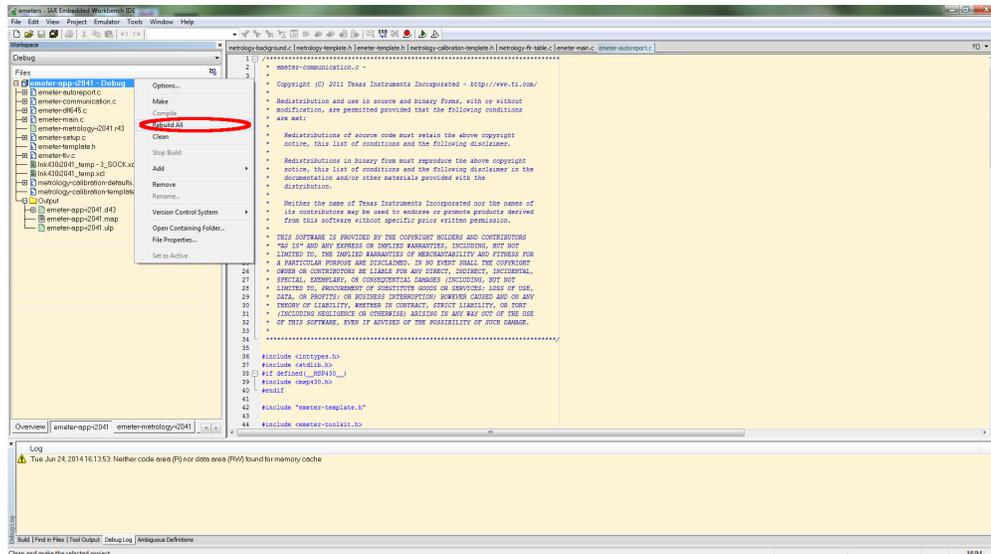
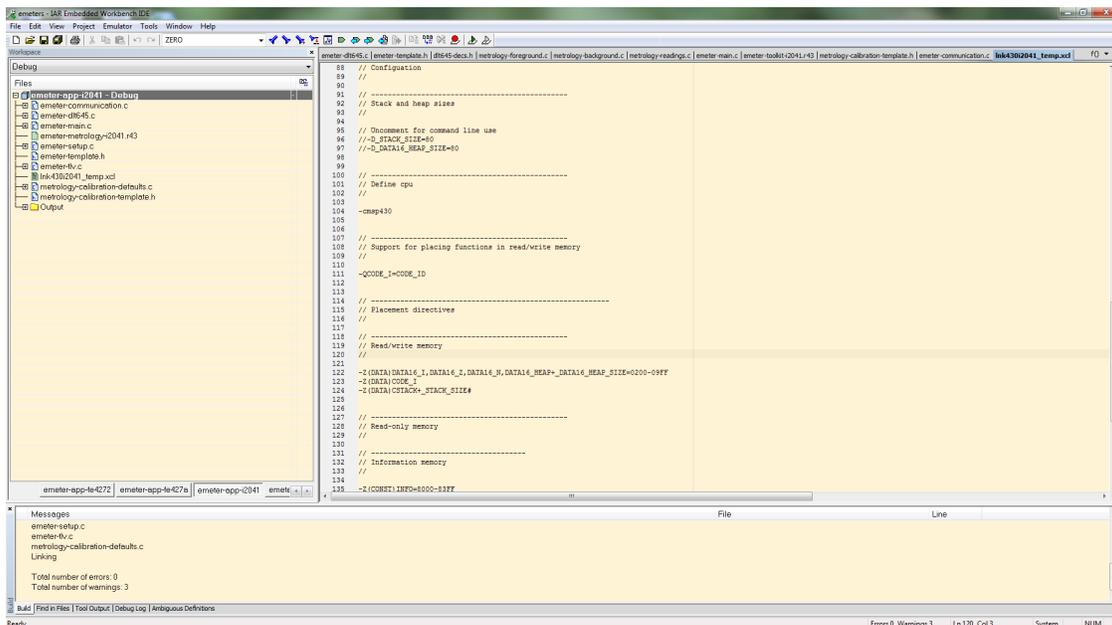

Figure 27. Compiling the Application
Figure 28. Warnings
- Rebuild the project by right-clicking on the project and select *Rebuild All* from the pop-up menu (see Figure 27). Three warnings will be reported during rebuilding (see Figure 28), which are safe to ignore. To open the project workspace and modify, compile, and download the code, the user must have IAR Embedded Workbench 5.5 installed with a valid license. If a valid license is not available, the user can still download the object code. See Section A.3 for downloading procedures.